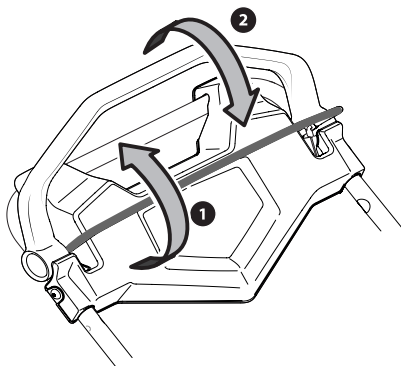

Figure 11
1. Once the engine is running and while continuing to hold the blade and drive controls together, push the drive control forward to propel mower. The farther the control is pushed forward, the faster the mower will propel. See Figure 11.